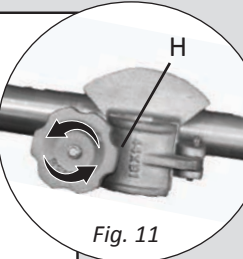

Fig. 11
A. Loosen torch holder adjustment knob. (H, Fig. 11)
C. Tighten torch holder adjustment knob. (H, Fig. 11)